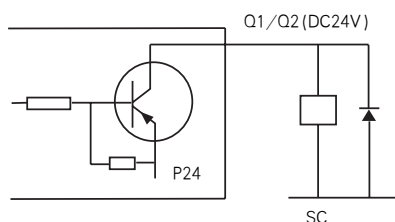

Figure 2-14 Transistor output circuit
- If the output terminal needs 0V, intermediate relay may be installed for switching as shown in Figure 2-14.
- If the output terminal drives inductive load (e.g., electromagnetic relay, intermediate relay), surge voltage absorbing circuit shall be added as shown in Figure 2-14.